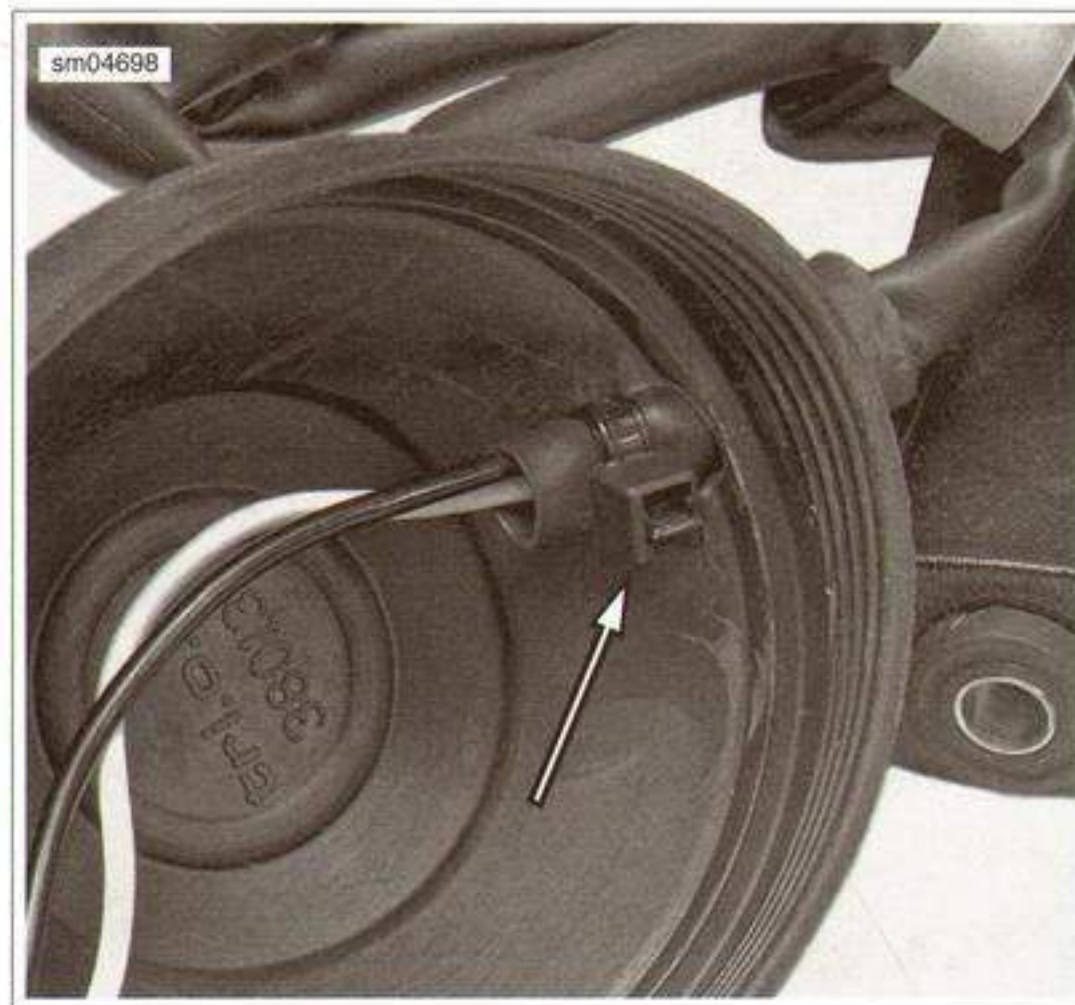

Figure 7-52. Conduit Cable Strap
7. See Figure 7-52. If necessary, cut the cable straps on the wire conduit inside the headlamp boots.